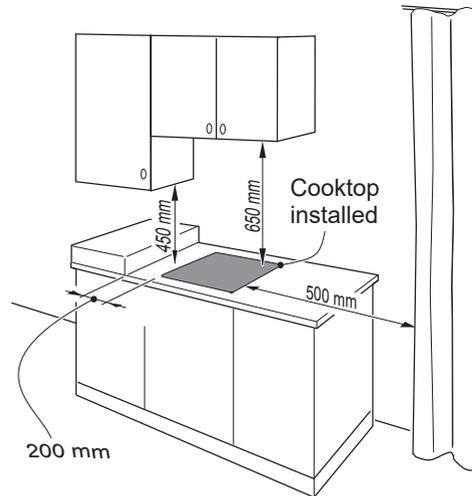

Fig. 1.1
- there must be a distance of at least 650 mm between the hob and any wall cabinet or extractor hood positioned immediately above (see fig. 1.1).